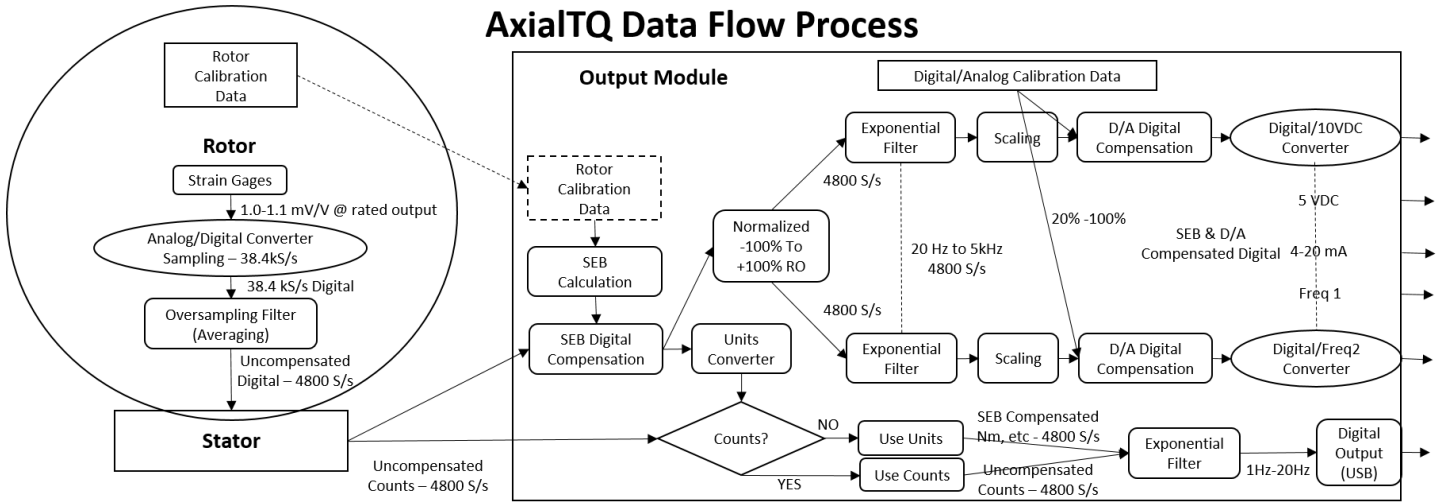

Figure 11
The strain gages located in the active area of the load cell are connected in a wheatstone bridge arrangement and when an excitation voltage is applied with the torque, it will create a differential voltage across the bridge output terminals. The typical output will be 1.0 to 1.1 mV/V at Rated Output (RO) for AxialTQ (Refer to Figure 11).